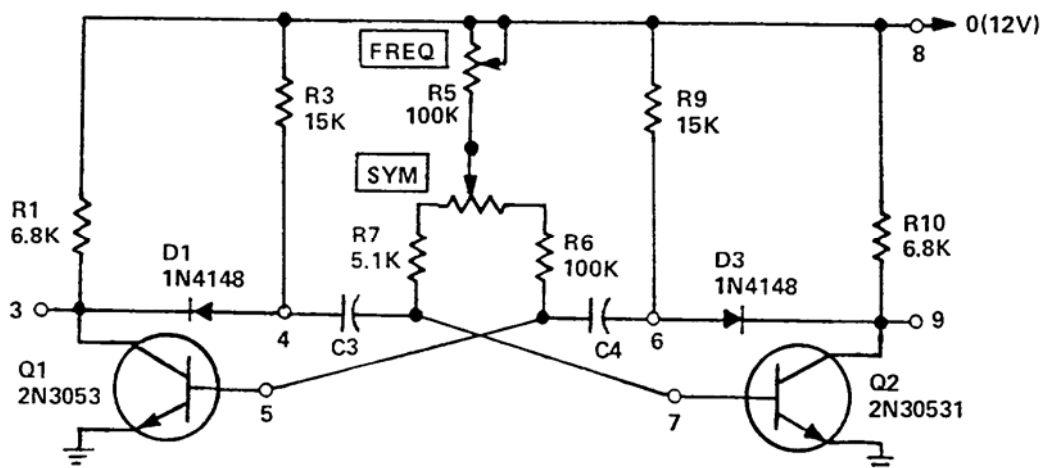

Figure F-1. Astable Multivibrator
(1) Using the circuit in Figure F-1, assume that the collector of Q1 opens. The first step, as with all troubleshooting, is to check the output. If there is an output, the circuit is oscillating. If not, then the circuit is obviously not oscillating. At this point the oscilloscope will no longer be useful except to check DC potentials.